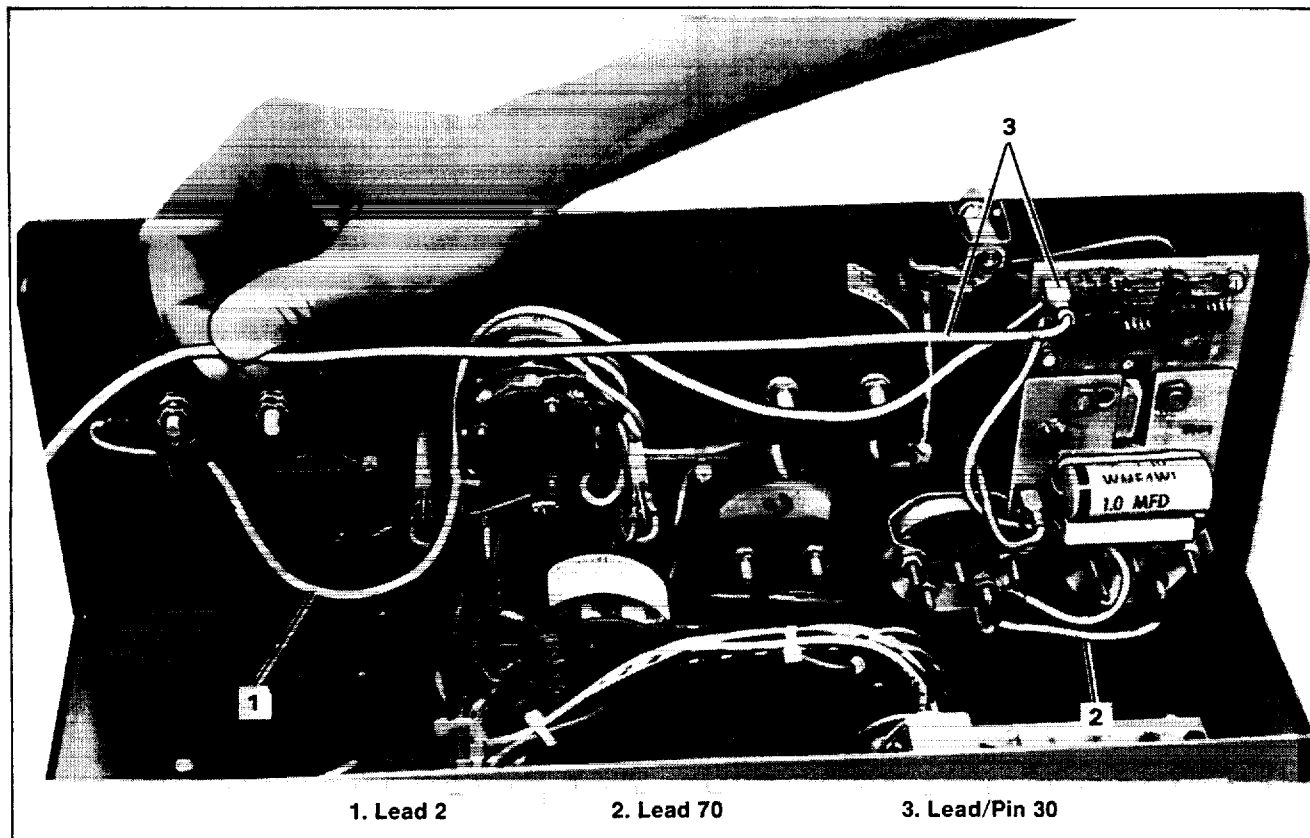

Figure 4. Overvoltage Shutdown Board Connections
5. Connect lead 2 from overvoltage protection board to grounded terminal of AC ammeter. Connect lead 70 to (I) terminal of water temperature gauge. Connect lead 30 from harness to Pin 30 of overvoltage protection board. See Figure 4.